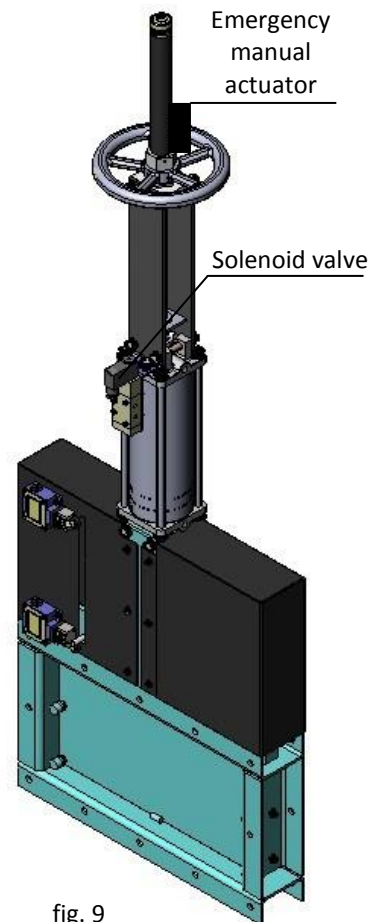

fig. 9
-Solenoid valves: For air distribution to pneumatic actuators (Fig. 9).
-Emergency Manual Actuator (Hand Wheel /Gear Box): Allows manual operation of the valve in the event of power or air failure (Fig. 9).